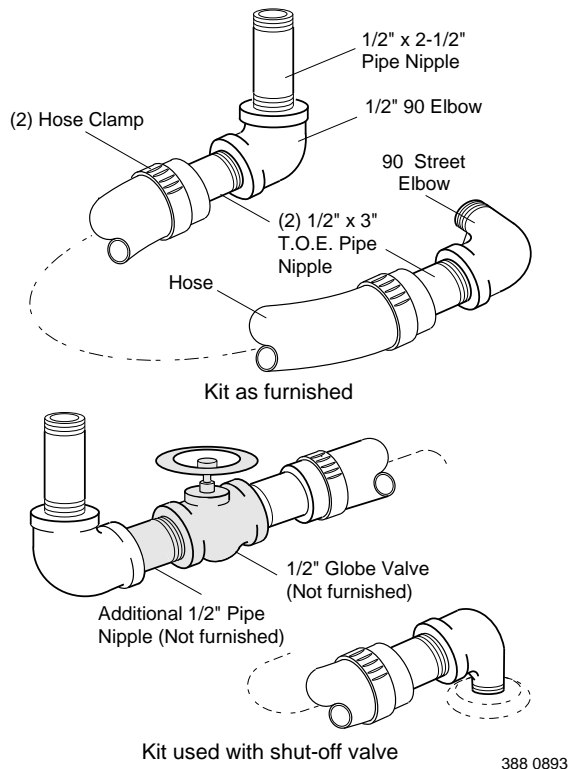

FIGURE 4
1. Assemble remote mounting kit components (see Figure 4). Make sure all connections are tight. Use pipe joint compound sparingly on metal to metal thread connections.